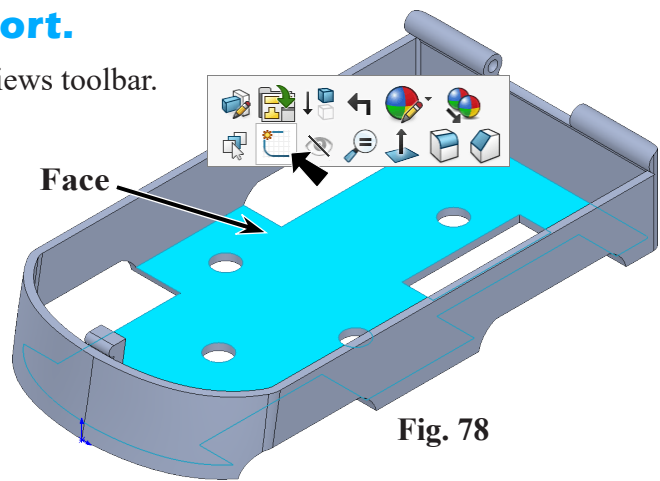

Fig. 78
Step 2. Click the **inside top face of body** and click **Sketch**  on the context toolbar, Fig. 78.